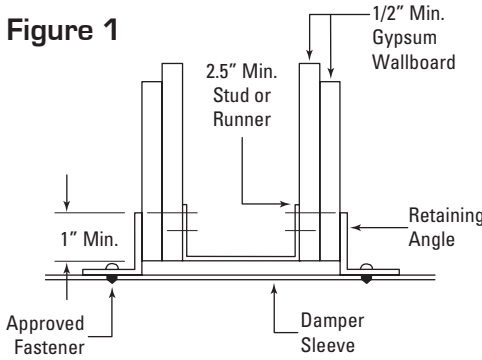

Figure 1
2. When using wood studs, filler pieces are required to be installed around the entire opening so the damper is not in direct contact with the wood studs and screwed to the web of runners and studs (see Figure 2). Filler pieces are optional when using metal studs (see Figure 1).